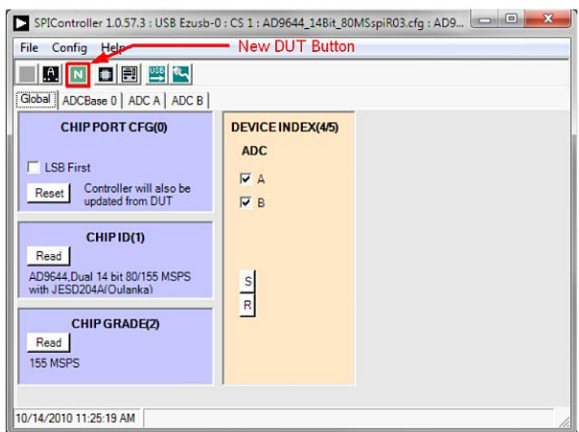

Figure 10. SPI Controller, New DUT Button
2. Click the **New DUT** button in the **SPIController** window (see Figure 10).